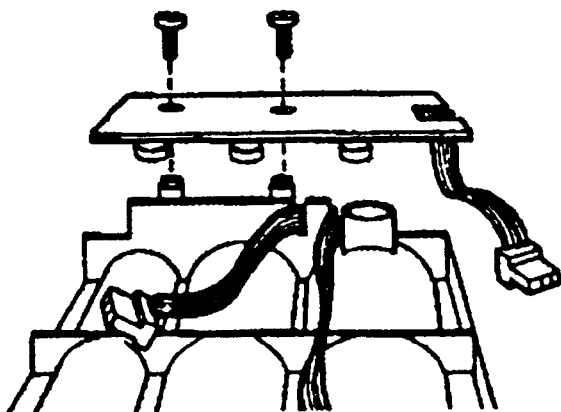

Figure 22: Removing the Upper and Lower Sensor Assemblies
- Remove the two Phillips head screws from the Upper Sensor Assembly (Figure 22). Lift out the assembly so that the coin tube sensors clear the Housing depressions.